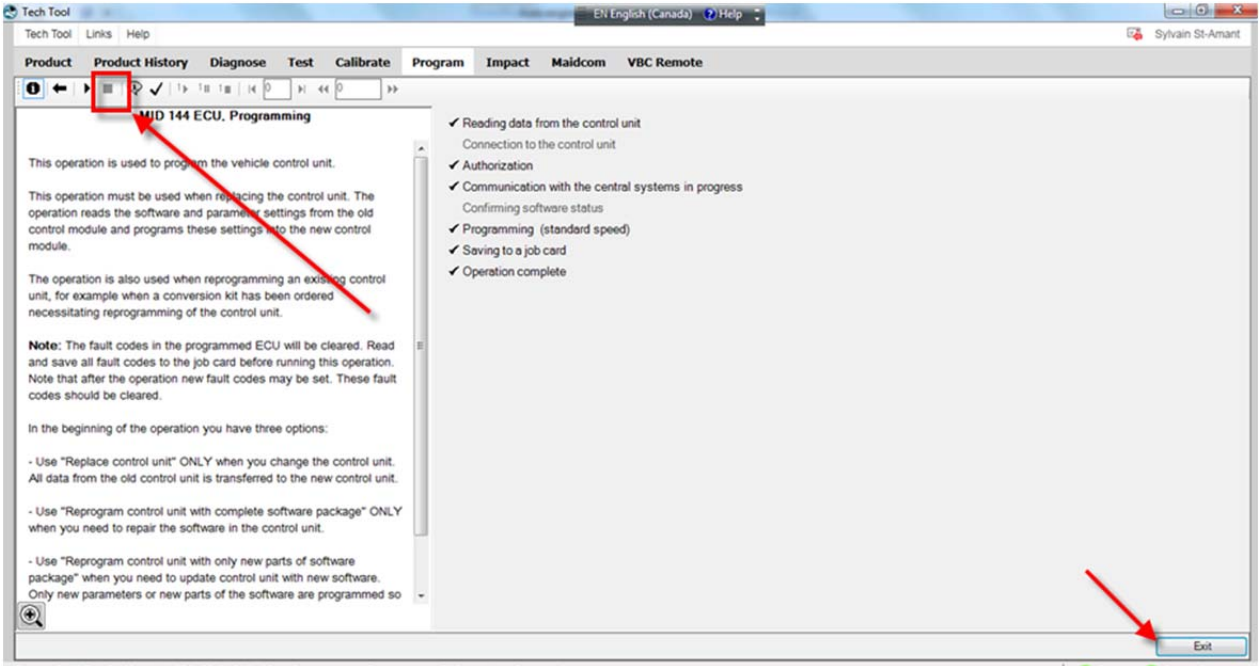

FIGURE 28
9. Click [stop] (stop) and then click EXIT (FIGURE 28).